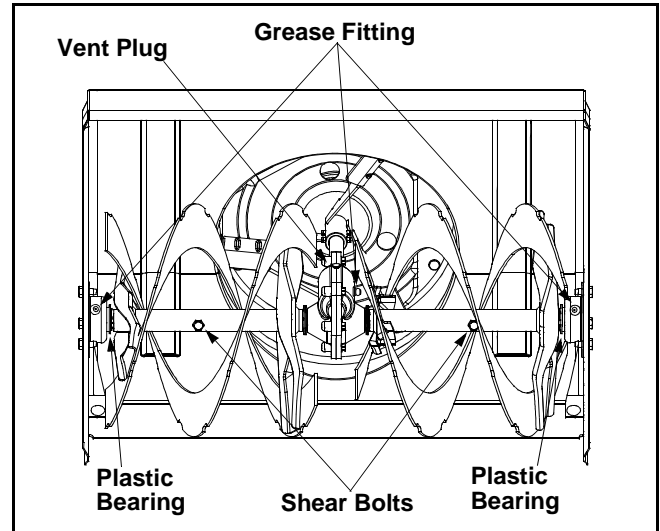

Figure 12
The gear case is equipped with a grease fitting on the left housing and should be lubricated with Shell Alvania grease EPR00, part number 737-0168 every 25 hours. See Figure 12.
season and grease the fittings on the end of the auger shaft with a standard grease gun. See Figure 12.
- The augers are secured to the spiral shaft with two shear bolts and hex lock nuts. If you hit a hard foreign object or ice jam, the snow thrower is designed so that the bolts may shear. Refer to Figure 12.